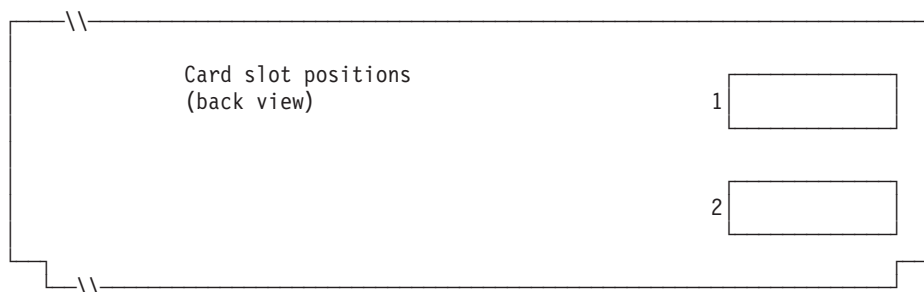

Figure 92. Rear of 4693-3x1 Point-of-Sale Terminal
4. Mark an X on Figure 92 in each card slot that has a Dual Asynchronous Adapter installed **for use by terminal applications**. Do not mark an X if the card is to be used by applications other than terminal applications use .